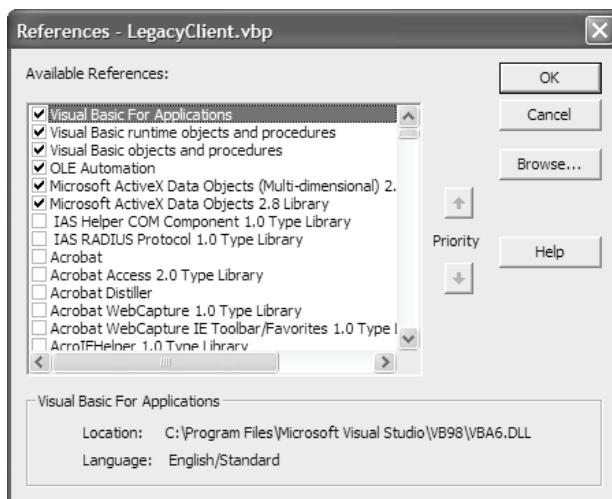

Figure 17.11 Use the ActiveX Data Objects (ADO MD) object library to connect to SSAS from Visual Basic 6.0 clients.
1. In the Visual Basic 6.0 IDE, select the *Project* \Rightarrow *References* menu (Figure 17.11).